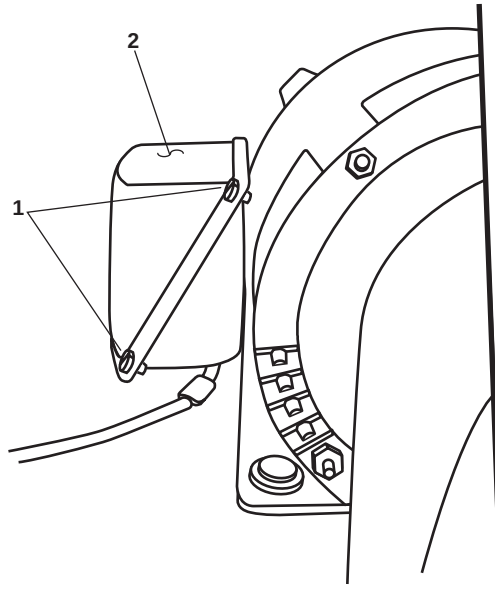

Figure 1. Electrical Junction Box
1. Remove the four screws (figure 1, item 1) holding the electrical junction box cover (figure 1, item 2).
2. Remove the junction box cover (figure 1, item 2).